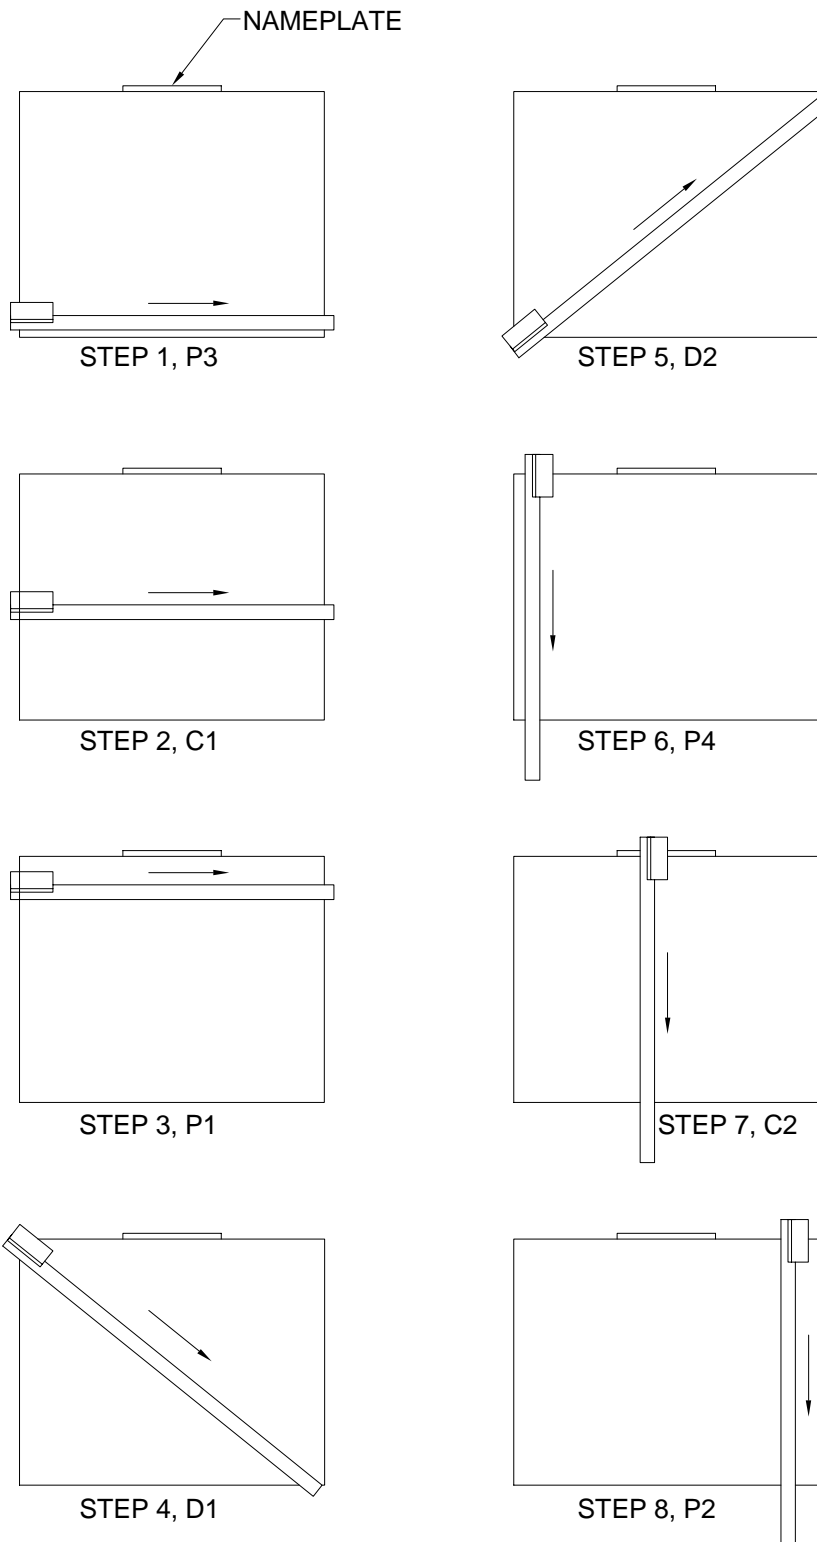

FIG. 15-4 SUGGESTED ROUTINE FOR
9. Repeat steps 7 and 8 until all (8) "lines" have been measured.
10. A suggested routine for a measurement is shown in Fig. 15-4.